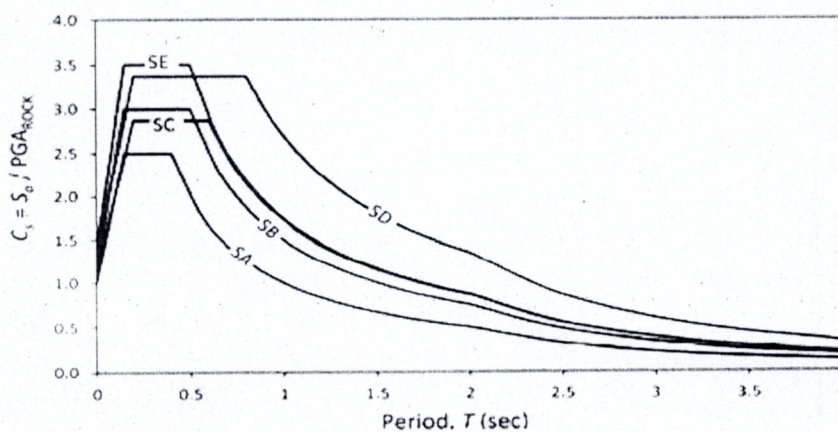

Figure 01: Normalized design acceleration response spectrum for different site classes.
- (b) Calculate the base shear produced due to earthquake for a residential building with a special moment resisting frame ($C_t=0.0466$ and $m=0.9$) in Mymensingh. Dead load on floor = 5 kips/ sft. The building is 30 ft X 50 ft in plan and 4-storied, each having a height of 10 ft. Soil class: SD. Use Figure 01 and assume the reasonable data if required. Also, determine the floor-wise lateral loads due to the earthquake. 06